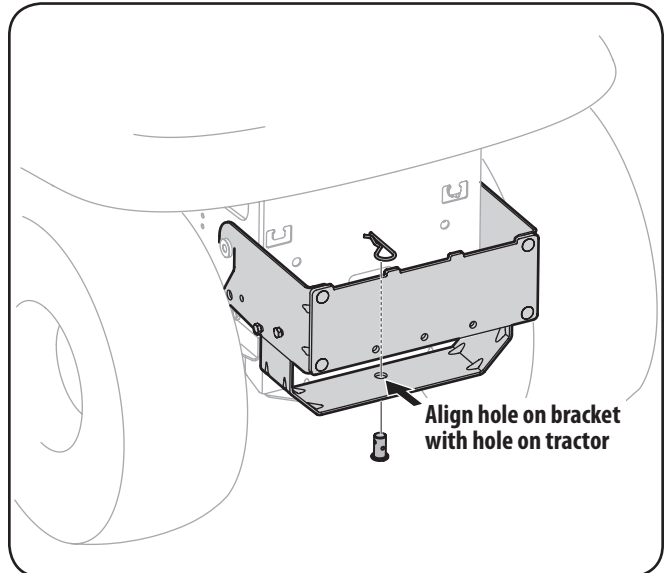

Figure 4-9
2. Install the clevis pin from hardware pack 689-00087 into the tractor's hitch and secure with a hairpin clip. See Fig. 4-9.